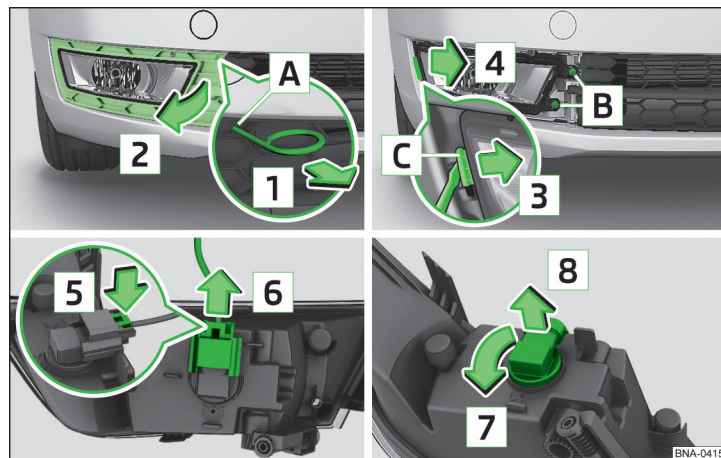

Fig. 114 Remove the number plate light / replace the bulb
- › Insert the clamps for removing the full wheel trims into opening **A** » fig. 114.
- › By pulling the hook in direction of arrow **1** remove the protective grille in the arrow direction **2** » fig. 114.
- › Press the latch on the connector in the direction of arrow **5** » fig. 114.
- › Replace the fog light by inserting it in the opposite direction of the arrow **4** and tighten. » fig. 114.